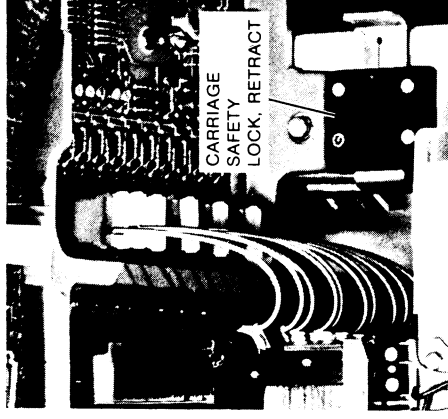

FIGURE 4-10. CARRIAGE SAFETY LOCK
3. Engage carriage safety lock (Figure 4-10).
12. Retract carriage safety lock (Figure 4-10). Move wind tunnel to forward position.